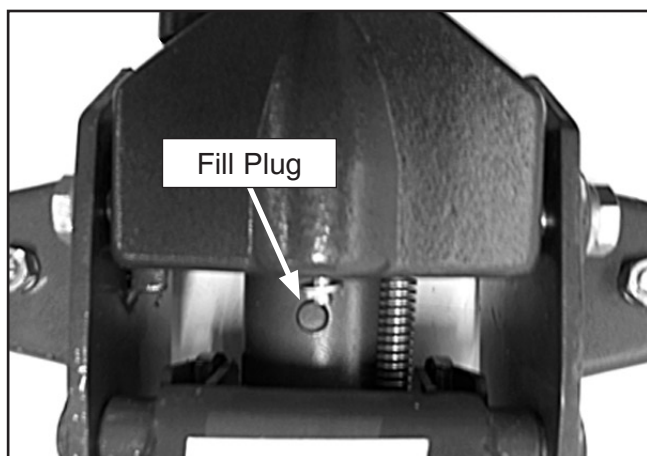

Figure 3. Fill plug.
2. Remove the fill plug shown in **Figure 3**.